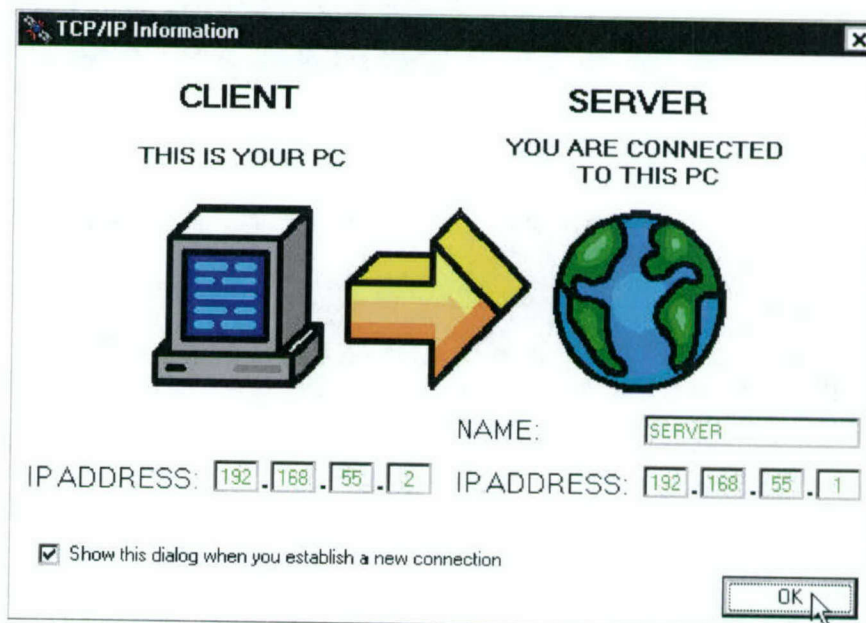

Figure 40. TCP/IP Information window
- f. If the connection is successful, an info screen will appear, informing you of the IP addresses for your machine and the far (remote site) machine. Click OK. (See Figure 40.)